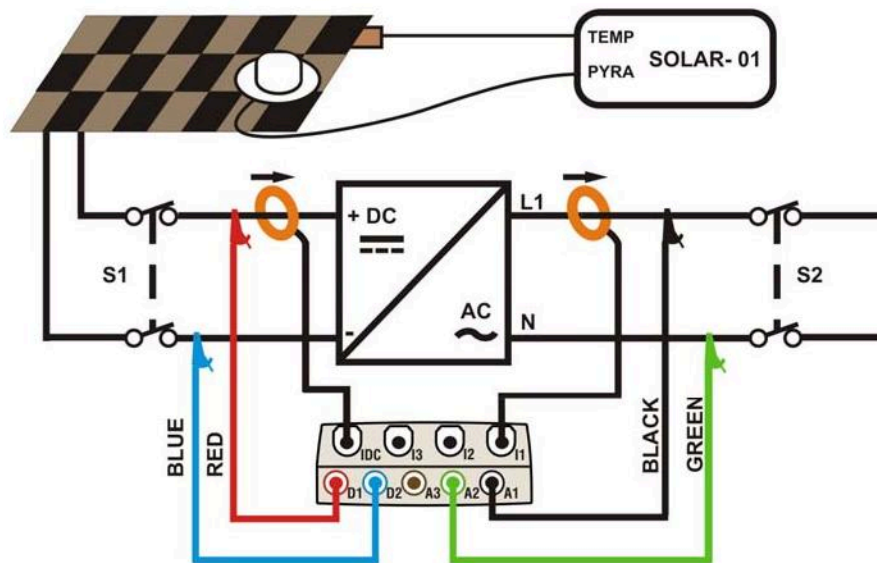

Fig. 159: Connecting the instrument in a PV-1 system with SOLAR-01
2. Connect inputs **D1** and **D2** to the positive and negative string output pole respectively. Connect inputs **A1** and **A2** to the phase and neutral conductors, respecting the colors as shown in Fig. 159
3. Connect the DC current clamp to the positive string output conductor **by respecting the direction of the arrow** on the clamp itself as indicated in Fig. 159. **Check the status of internal batteries of the DC clamp after the connection to the installation**
4. Connect the AC current clamp to the Phase L1 conductor **by respecting the direction of the arrow** on the clamp itself as indicated in Fig. 159. Connect the output of the clamp to the I1 input of the instrument.